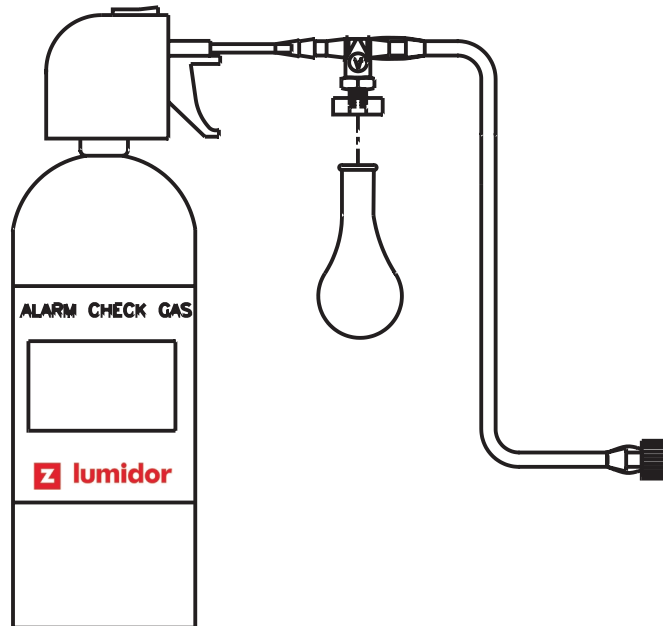

Figure 5 Alarm Check Gas
- Attach blue balloon on to black disk on alarm check gas hose. (See **Figure 5**)